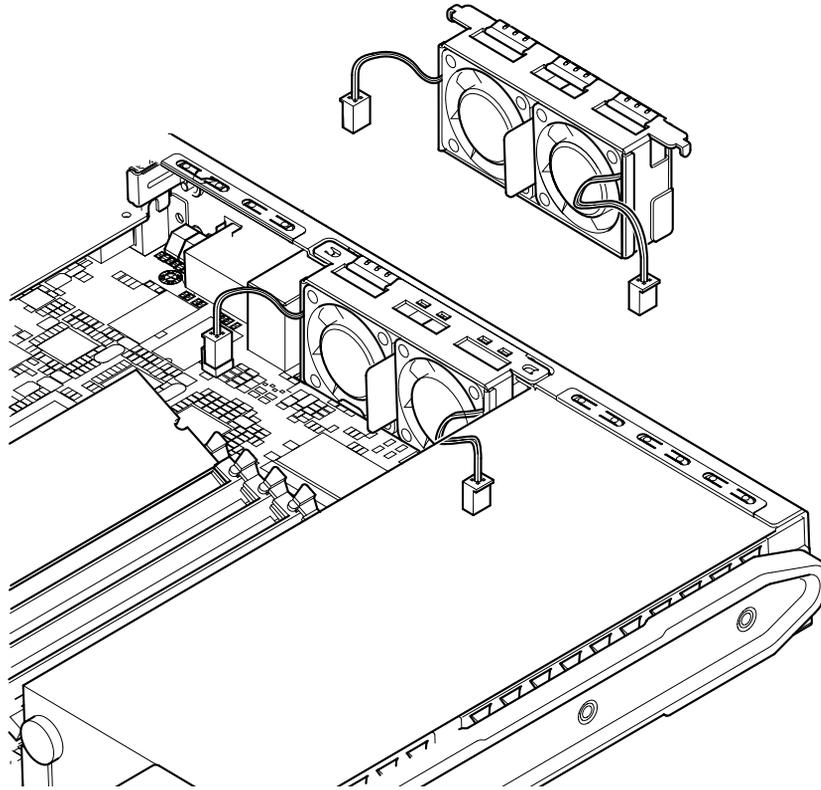

FIGURE 11-8 Replacing the Rear Fan Subassembly (Fans 1 and 2)
2. **With the server open and seated on top of an ESD pad, and with a properly grounded antistatic wrist strap on your wrist, disconnect the old subassembly’s power cables from the system board (see FIGURE 11-8).**
5. **Connect the fan cables to the system board (see FIGURE 11-8).**